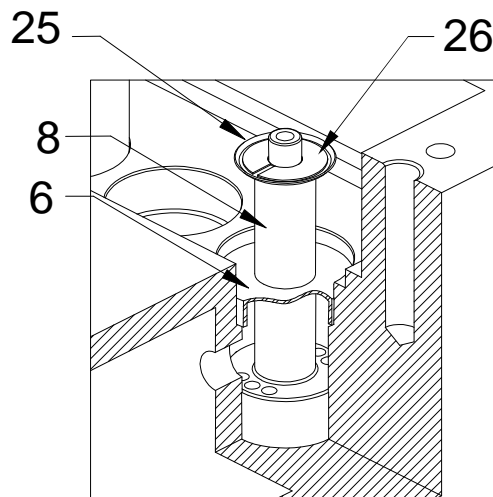
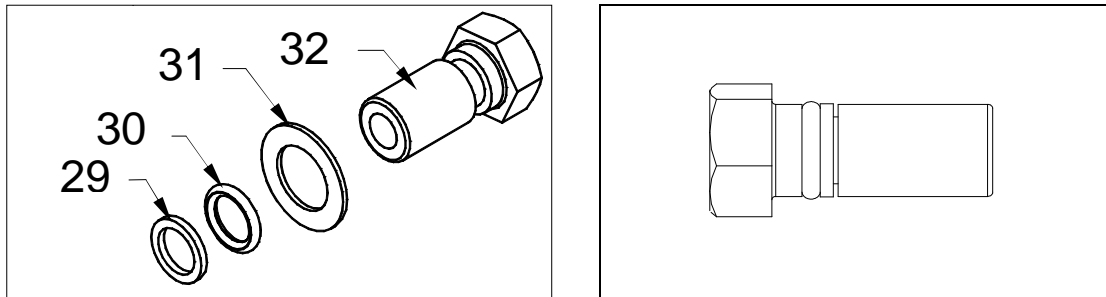
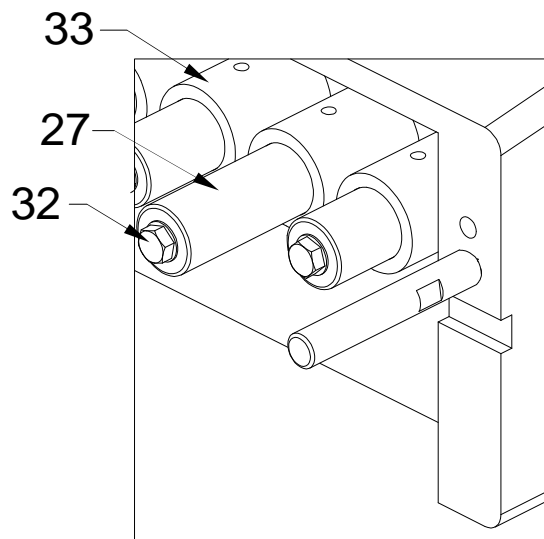

Fig. 4: Plunger Assembly View
Fig. 5: Plunger Retaining Nut Assembly
Fig. 6: Seal Retainer
Remove the seal retainer (33) and set aside, see Fig. 6. Remove the plunger retainer nut (32) with a 9/16" wrench and set aside. Remove the plunger retainer washer (31) and back-up ring (29), Fig. 5, and remove the ceramic plunger (8). Remove the keyhole washer (26), then remove the slinger (25), see Fig. 4. Using a flat head screwdriver and hammer, drive the screwdriver into the meat of the seal (6). Be careful not to scratch the inner or outer metal sealing surfaces. A quick twist of the screwdriver will remove the seal. Do not attempt to preserve the seal for reuse. Inspect the seal retainer washers for damage; if none is evident then reuse.
Insert new plunger rod oil seal (6) into crankcase ensuring that the seal is fully seated. Place slinger (25) onto the plunger rod (8), followed by the keyhole washer (26) as shown in Fig. 4. Chase the thread of the plunger rod and the retainer stud with the tap and die to ensure the removal of any left over loctite prior to reassembly.
Examine the ceramic plungers (27), Fig. 6, for cracks, heavy scoring, or unusual wear.
Slide ceramic plungers (27) onto plunger rod, and insert the new plunger retainer washer (31) into the plunger. Clean the plunger retaining nuts (32), Fig. 5. With the aid of a pick remove the plunger retainer back-up ring (29) and the plunger retainer o-ring (30). Replace the o-ring (30) and back-up ring (29) with the new one supplied in the kit as shown in Fig. 5.